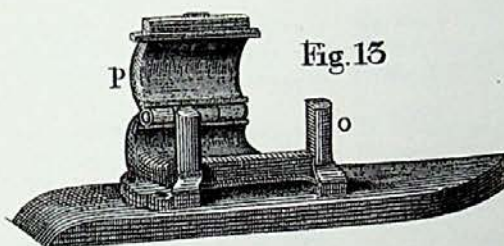
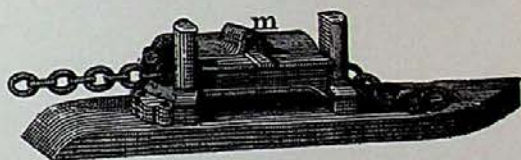

Fig. 13
Fig. 14
An IRON ROLLER like Fig. 12, is fixed before the Hawse-hole where the Chain-Cable enters: and another of the same kind is fixed within board.—The Cable abaft the Windlass passes through an IRON STOPPER, Fig. 13: the Horns (o) keep it from slipping out. It is held on by iron Hooks like (L): these are from two to three feet in length. When necessary, the upper part, or Lid of the Stopper (p) is let down; when it will appear like Fig. 14. An iron Bar, or Crow, being put into the hollow of a raised Strap (m), it is pressed down: and this completely jams the Chain.